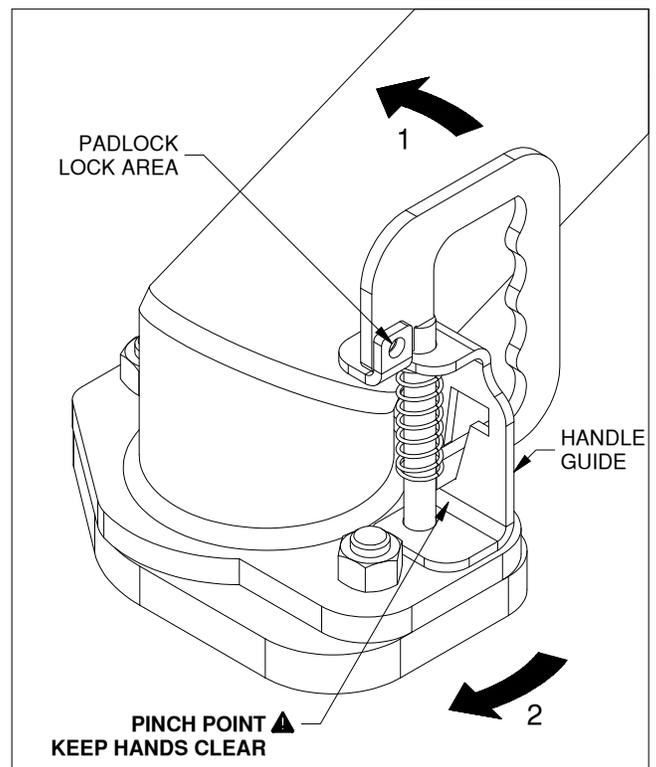

FIGURE B2: Coupler in "closed" position
4. Slowly lower the trailer onto the ball. When the ball is fully engaged in the coupler, set the coupler to the "closed" position. (1) To do this grip the handle and rotate it counter clockwise. (2) Rotate the coupler bottom plate clockwise until the latch pin is through the coupler bottom plate and the handle is flat against the bottom of the handle guide. See figure B2.
5. If desired, it is possible to lock the Extend-A-Goose for added security. With the coupler handle in the "closed" position, use a padlock in the area noted in Figure B2.